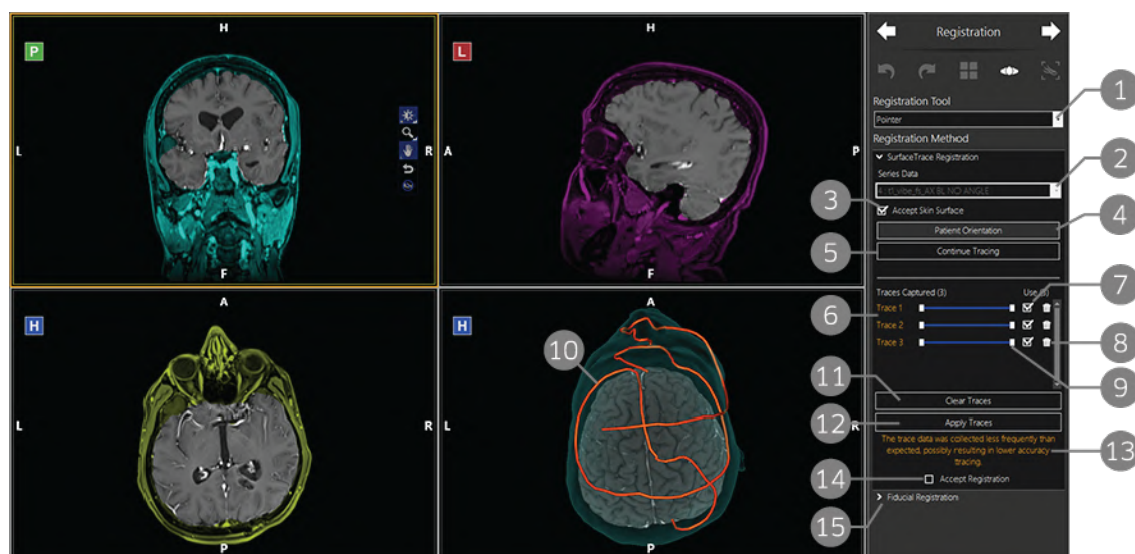

Figure 54 Registration phase workspace when performing SurfaceTrace registration
12. When you are satisfied with the quality of the registration, click the **Accept Registration** checkbox (item 11 in Figure 54 above) to proceed to the next phase.